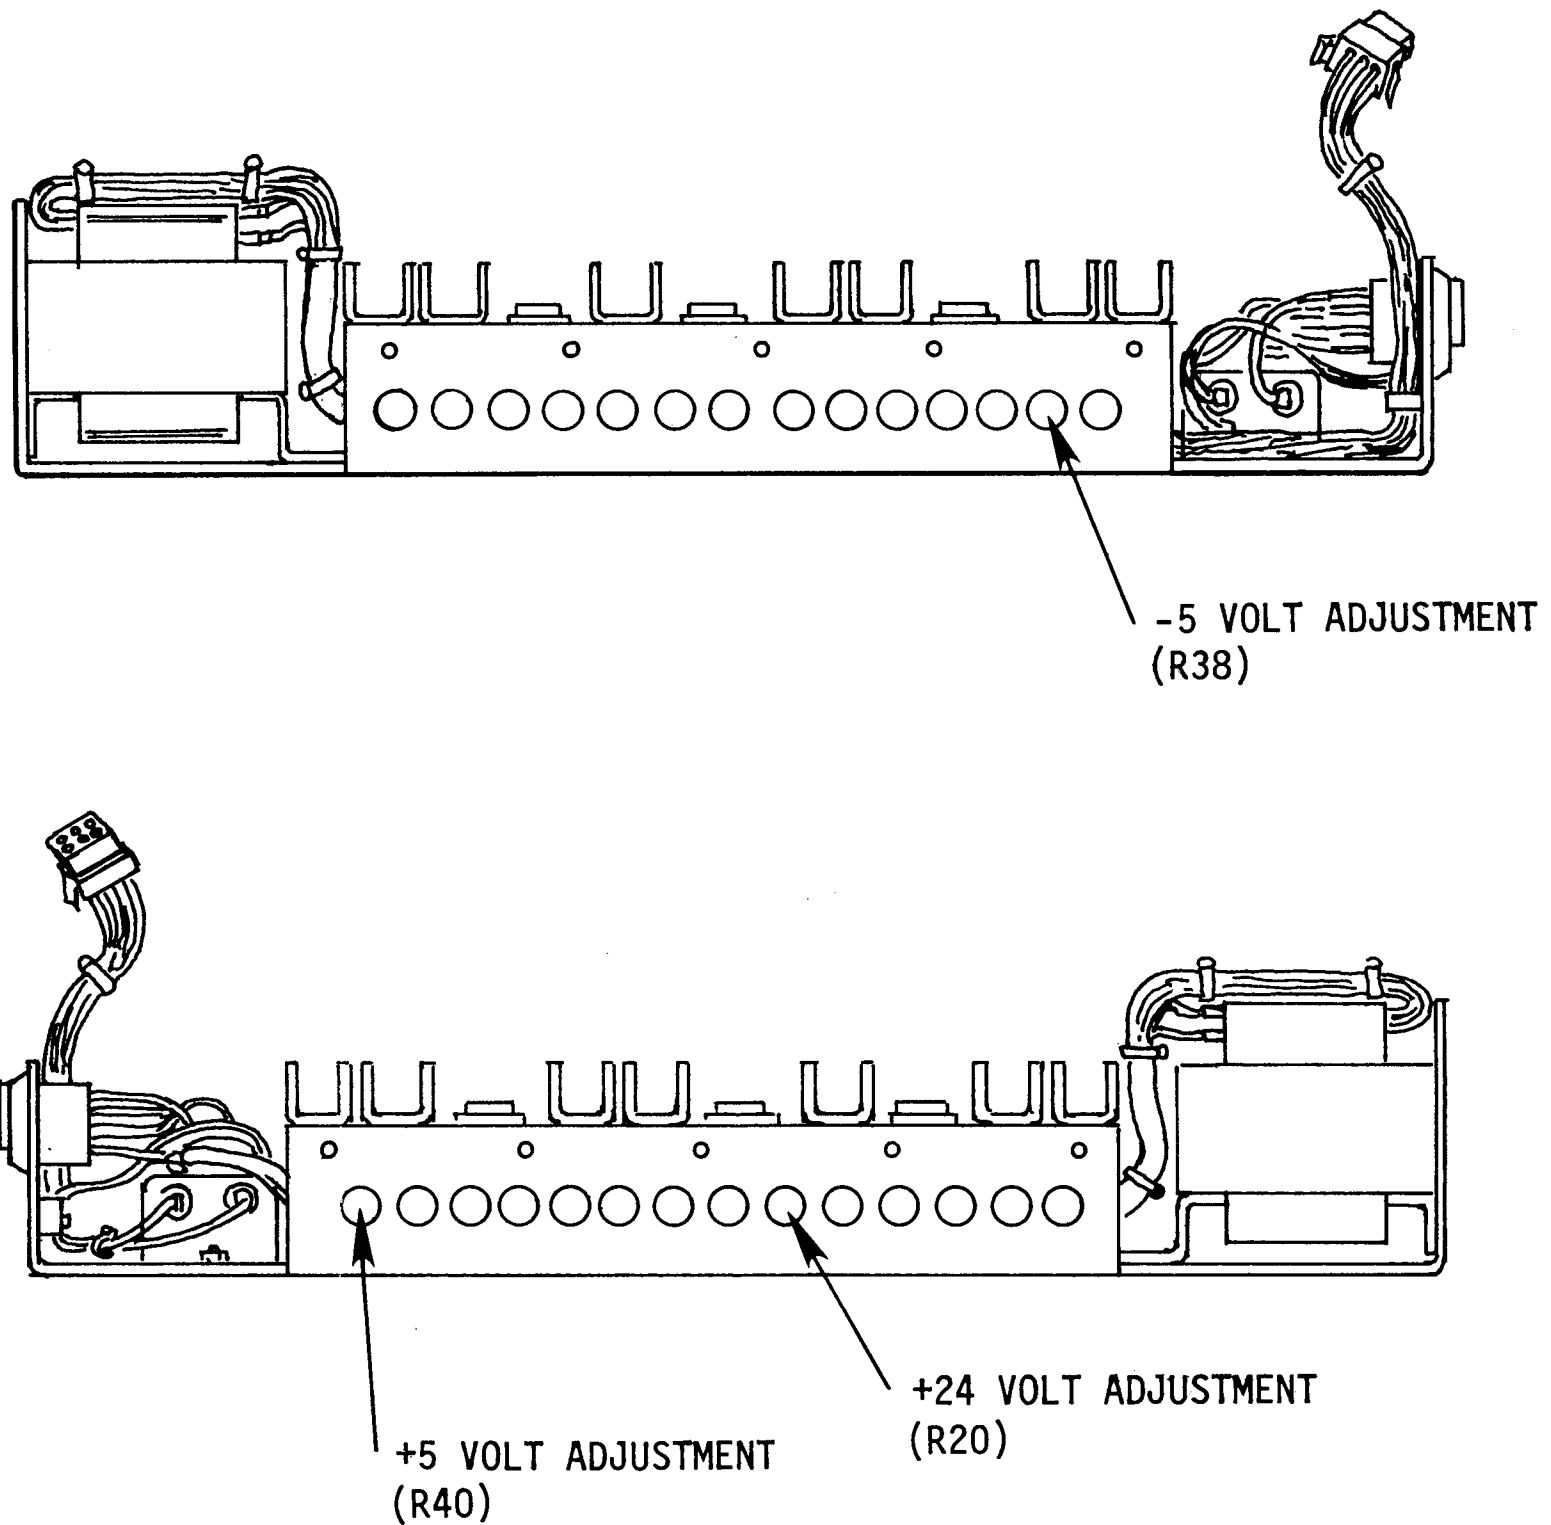

Figure 3-3. Power Supply Adjustments (P/N CP353-1)
8. Locate adjustments (refer to Figure 3-3 or 3-4).
Three voltages +5, -5, and +24 must be adjusted by reaching through holes inside the power supply chassis as shown in Figure 3-3. The -12 is not adjustable.